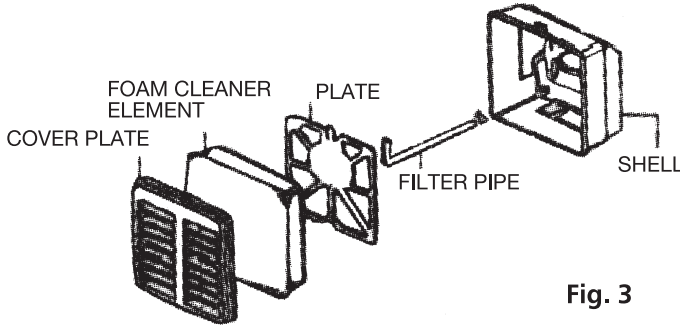

Fig. 3
**5. Check air cleaner element** (as shown on Fig.3)